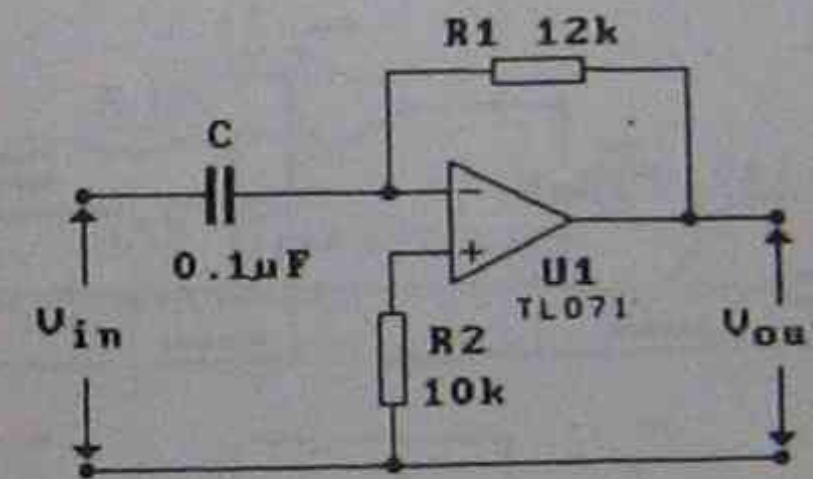

Fig.2
- For the circuit of Fig.2, sketch the output waveform if a 200Hz triangular wave with a peak to peak voltage of 10V is connected to the input. Label the waveform to show relevant voltage and time values.